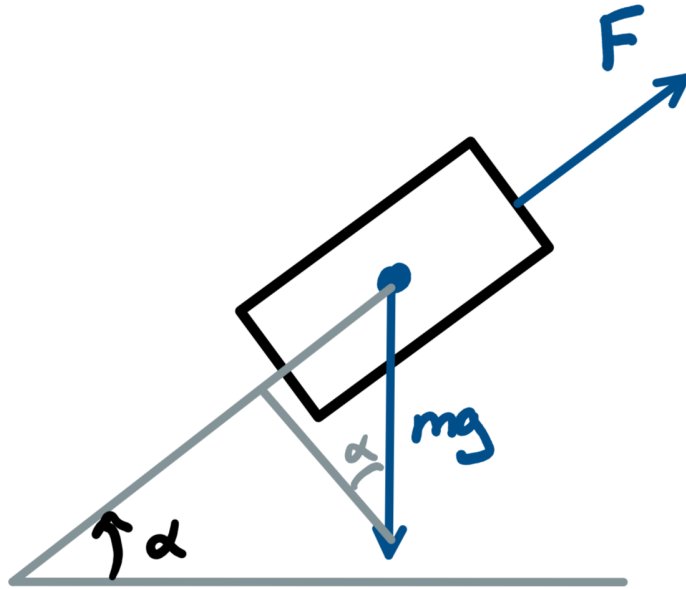

Figure 5: Incline force diagram
In the original scenario we developed discrete dynamics which relied on the fact that the ground was flat. In our new scenario the acceleration of the car is affected by a constant force due to gravity and the angle of the incline (α). A simple schematic highlighting the relation between both forces is shown in Figure 5. The acceleration of the car along the direction of the slope is shown in (35).